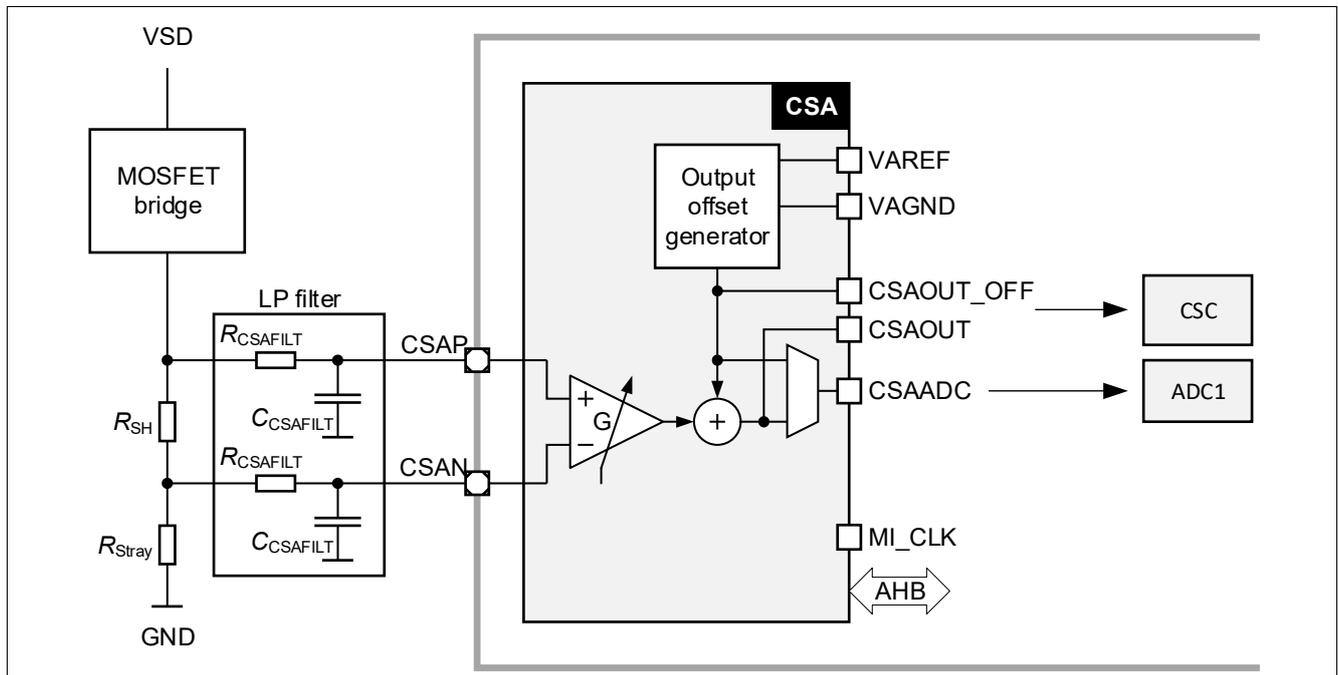

Figure 28 Block diagram CSA
The Current Sense Amplifier (CSA) in **Figure 28** can be used to measure near-ground differential voltages via ADC1. Its gain and output offset voltage are digitally programmable through internal control registers.
**Figure 28** shows how the current sense amplifier can be used as a low-side current sense amplifier where the motor current is converted to a voltage by means of a shunt resistor  $R_{SH}$ . A differential amplifier input is used in order to eliminate measurement errors due to voltage drop across the stray resistance  $R_{Stray}$  and differences between the external and internal ground. If the voltage at one or both inputs (CSAP/CSAN) is out of the operating range it has to be taken into account that the input circuit is overloaded and needs a certain specified recovery time.